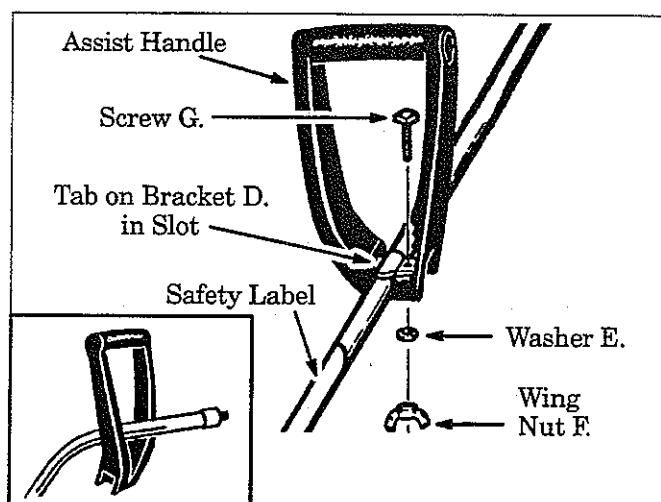

Figure 3
- b. Align the assist handle between the safety label and the engine. Figure 3. Seat the tube in the groove in the assist handle. Figure 3.
- c. Insert the tab on assist handle bracket "D." into the slot on the assist handle. Figure 3. Then, lay the bracket "D." over the tube.
- d. Insert screw "G." down through the screw hole in bracket "D." and the assist handle. Figure 3.
- e. Assemble washer "E." and wing nut "F." onto the screw. Figure 3. Tighten securely.